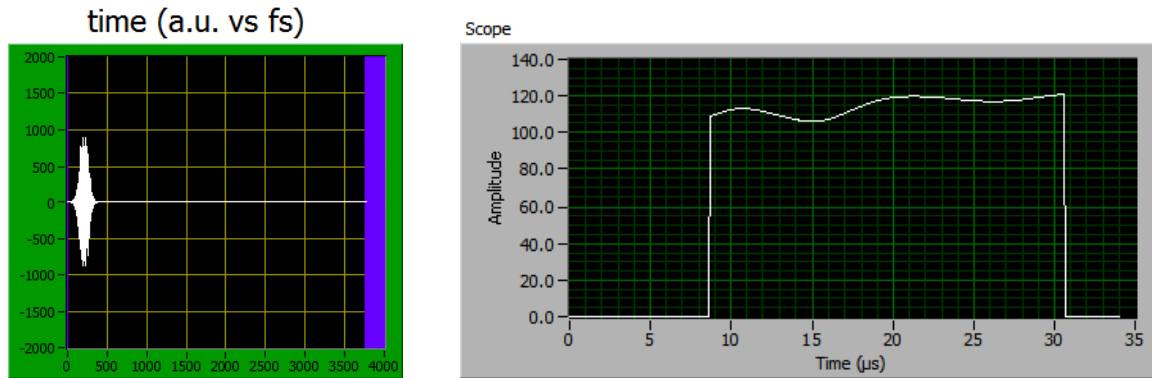

Figure 3.7: Short Acoustic Pulse and Typical Oscilloscope Measure
3. change the waveform of the Dazzler to produce a short acoustic signal by reducing the second order phase coefficient (see Figure 3.7). A typical signal on the oscilloscope is shown for this example. The duration of this signal is the propagation time through the crystal t_{xtal} , typically $20\mu s$ (the exact value is displayed in the "*Trigger and Mode*" panel, refer to section 4.2). Its shape reflects variations of the acoustic field in the crystal associated with the acoustic diffraction pattern. As you move the crystal, along the y direction, the scope trace will be shifted in time, due to the change of the acoustic propagation time from the transducer to the input face. When moving the crystal along the x direction, the onset of the signal remains constant in time but the shape changes. Adjust the x position to obtain an approximately flat pattern.